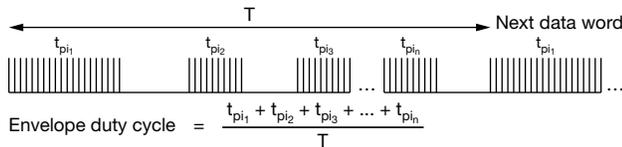

Fig. 1 - Definition of the Envelope Duty Cycle
- The parts table, which can be found on the first page of the IR-receiver datasheets lists the most popular IR remote control data formats and the IR receiver types suitable for receiving them. If a data format is not mentioned, then carrier frequency, burst length, and repetition time of the data signal should be cross checked against the receiver type. This can be accomplished by checking the maximum envelope duty cycle diagram in the datasheet. The envelope duty cycle is defined by the burst length divided by the repetition time. In more complex IR codes all the burst durations in a data word can be summed up and divided by the data word repetition time as illustrated in Fig. 1. Accepted signals must lie below the maximum envelope duty cycle curve. If there is uncertainty regarding the selection of the type, we recommend the general purpose TSOP13438 series or contact the technical support IRR@vishay.com.
The tolerances of the output pulse width (t_{po}) with respect to the input burst length (t_{pi}) is given in the expression shown in Fig. 1, “Output Delay and Pulse Width” on the datasheets, for example: